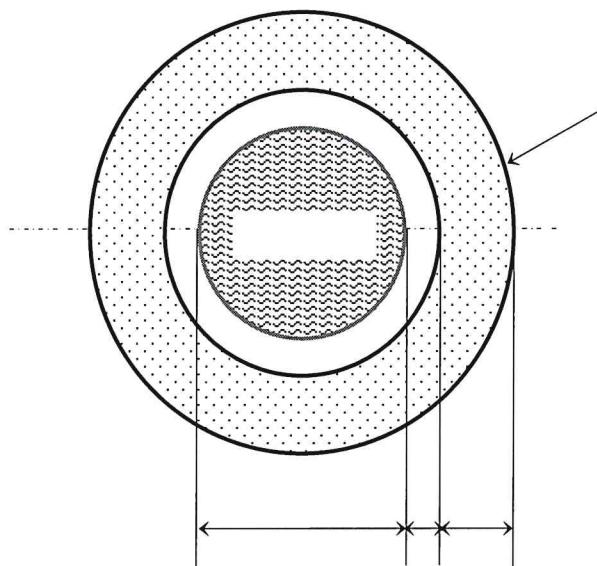

Figure 4b: Heat Flow Diagram
- (b) An oil flow through a 40 mm bore steel pipe with the thickness of 4 mm. The pipe is covered by 10 mm thickness of insulator with the thermal conductivity of 0.038 W/m.K as shown in **Figure 4b**. The temperature of the oil in the pipe is 75°C and the ambient temperature is 17°C . The internal thermal conductivity of steel is 50 W/m.K and the inside and outside heat transfer coefficient are 300 $\text{W/m}^2.\text{C}$ and 17 $\text{W/m}^2.\text{C}$ respectively. Neglecting radiation, calculate the following: